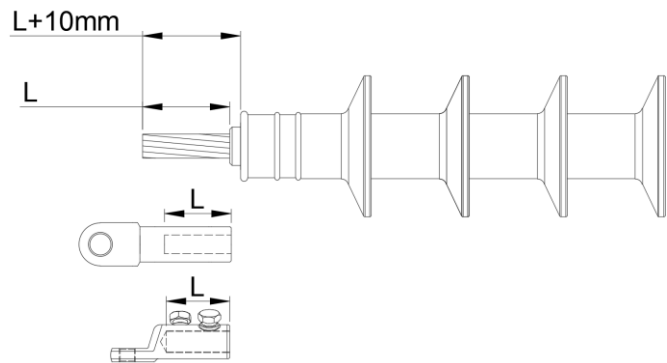

Fig.11
- Remove the insulation to expose the bare conductor according to lug depth “L” as shown in Fig.11.